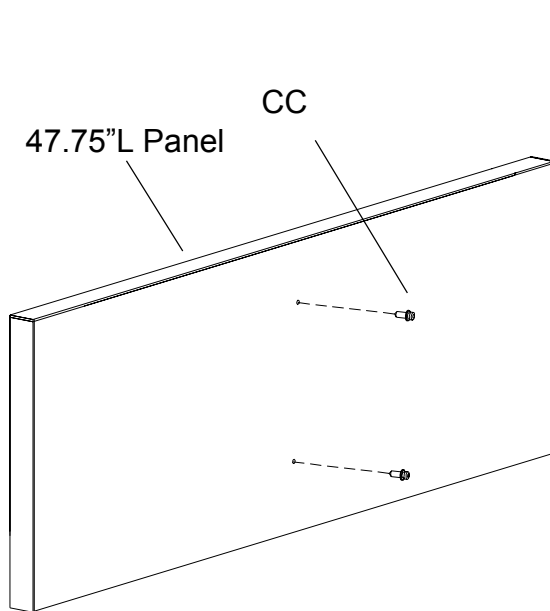

FIGURE 1
Install mod-eez screws (CC) into each end divider panel as shown in **FIGURE 1**. Then slide a middle divider panel onto the end divider as shown in **FIGURE 2**. Repeat this procedure for the other end and middle divider. Make sure you install the correct size divider panels indicated, the smaller ones are used in Step 6.